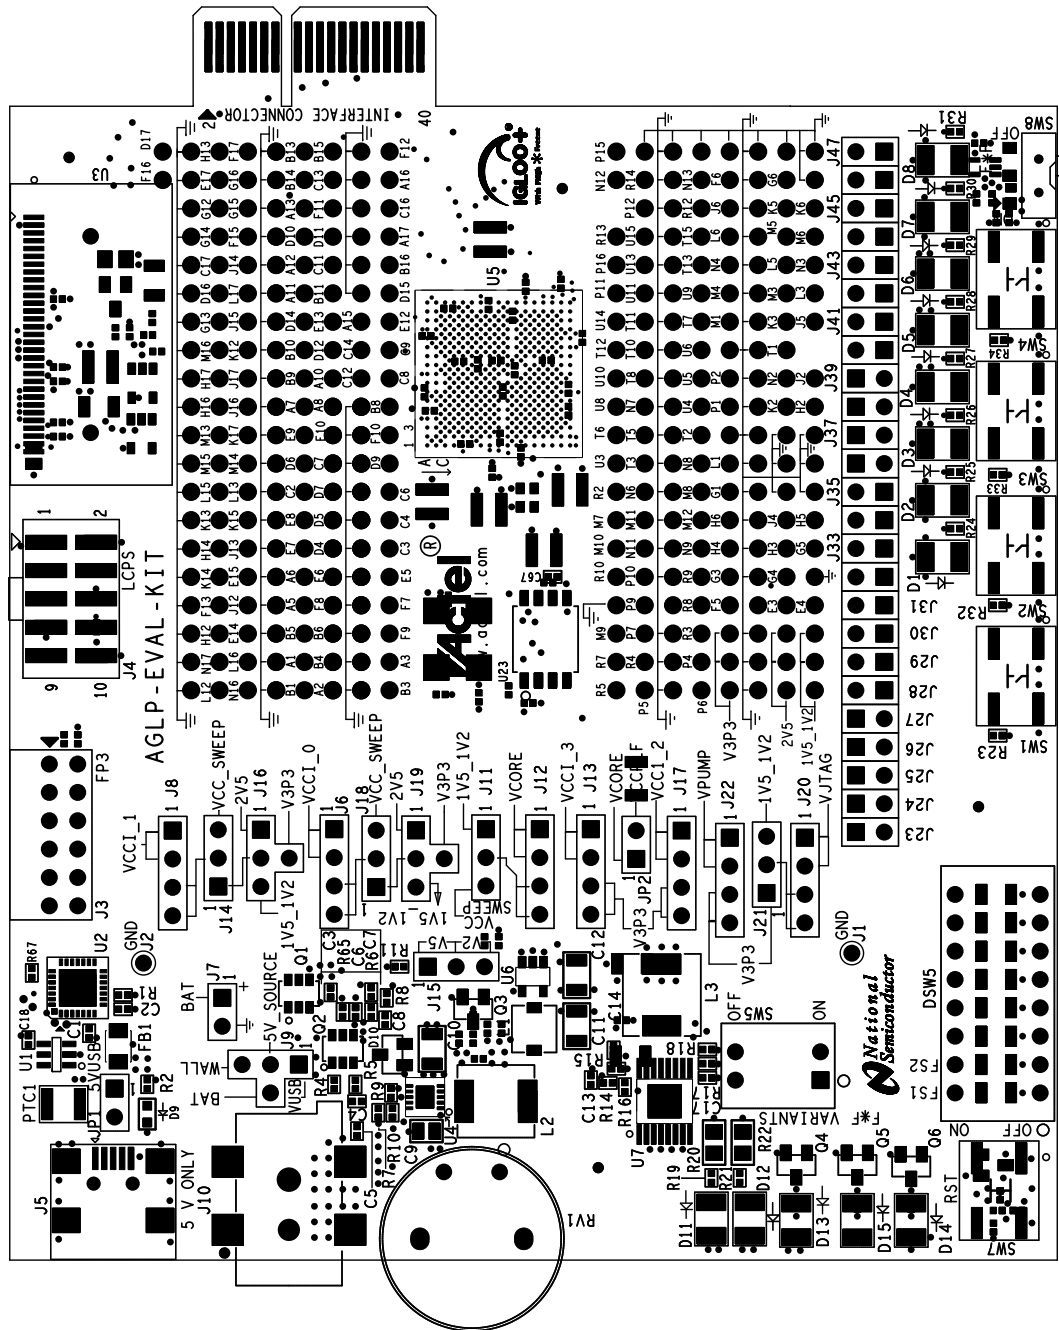

Figure 1-2 • IGLOO PLUS Top Silkscreen (L1)
- Bottom Signal (Figure 1-2 on page 9)